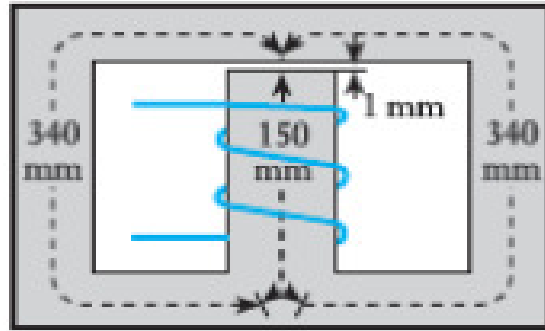

Figure:2
Q.3 A magnetic circuit made of silicon steel is arranged as in Fig. 2. The centre limb has a cross-sectional area of 800 mm² and each of the side limbs has a cross-sectional area of 500 mm². Calculate the m.m.f. required to produce a flux of